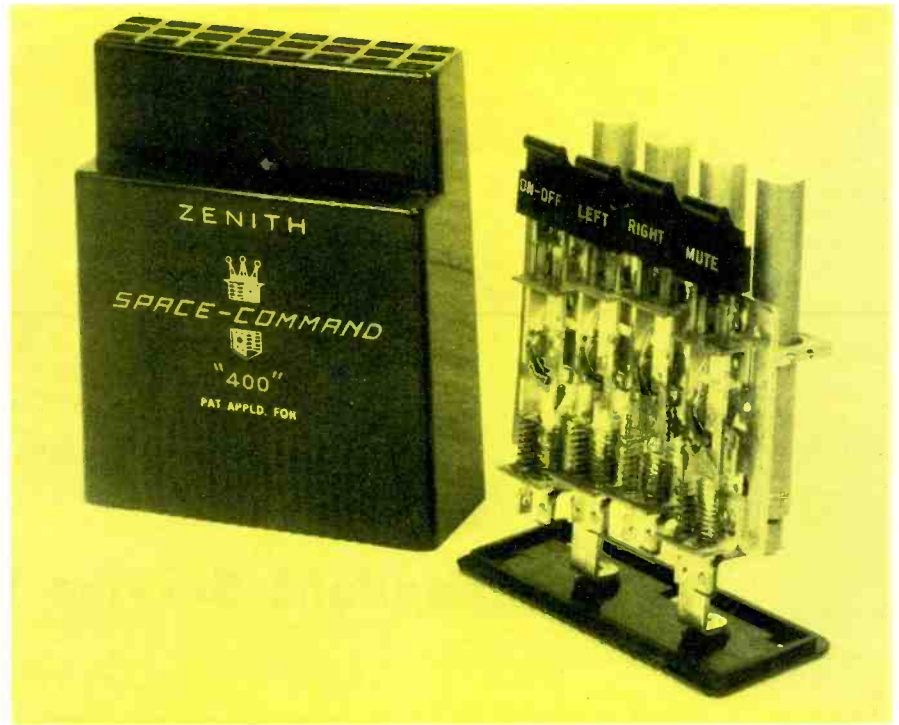

Fig. 1. Zenith "Space-Command 400" transmitter removed from its case. Keys operate hammers which strike tuning rods.
1. A small, hand-held transmitter (Fig. 1) equipped with tuning rods which, when struck, will vibrate at supersonic frequencies near 40 kc.